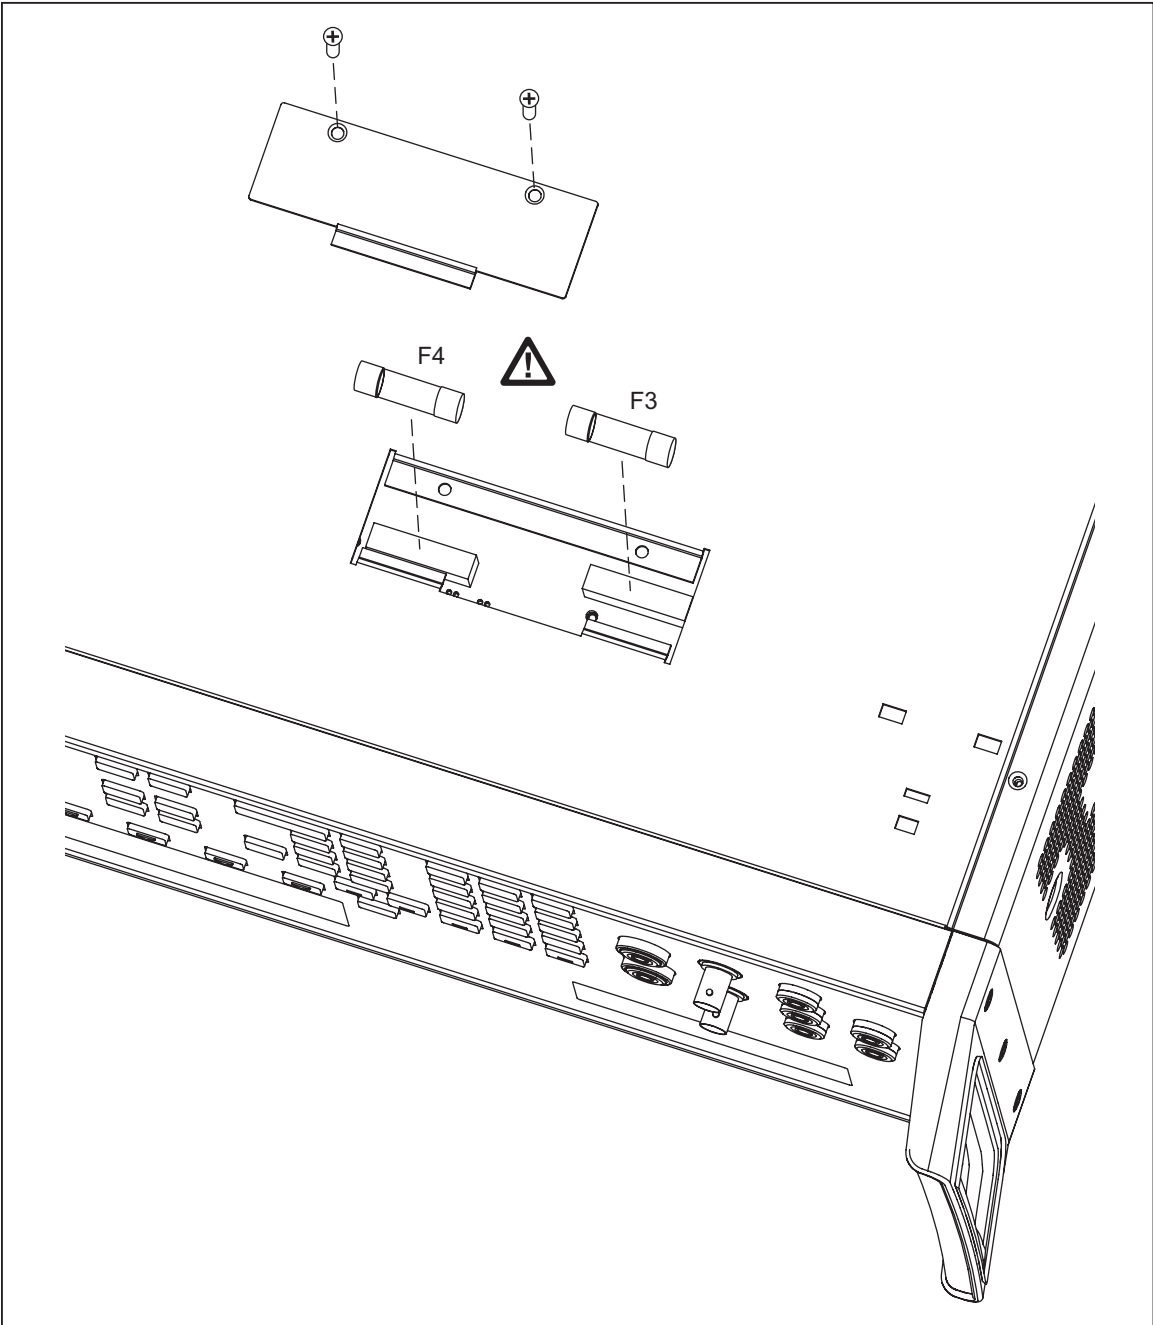

Figure 7-2. Current Fuse Compartment
3. Remove the two screws that hold the fuse compartment cover in place and remove the cover as shown in Figure 7-2.